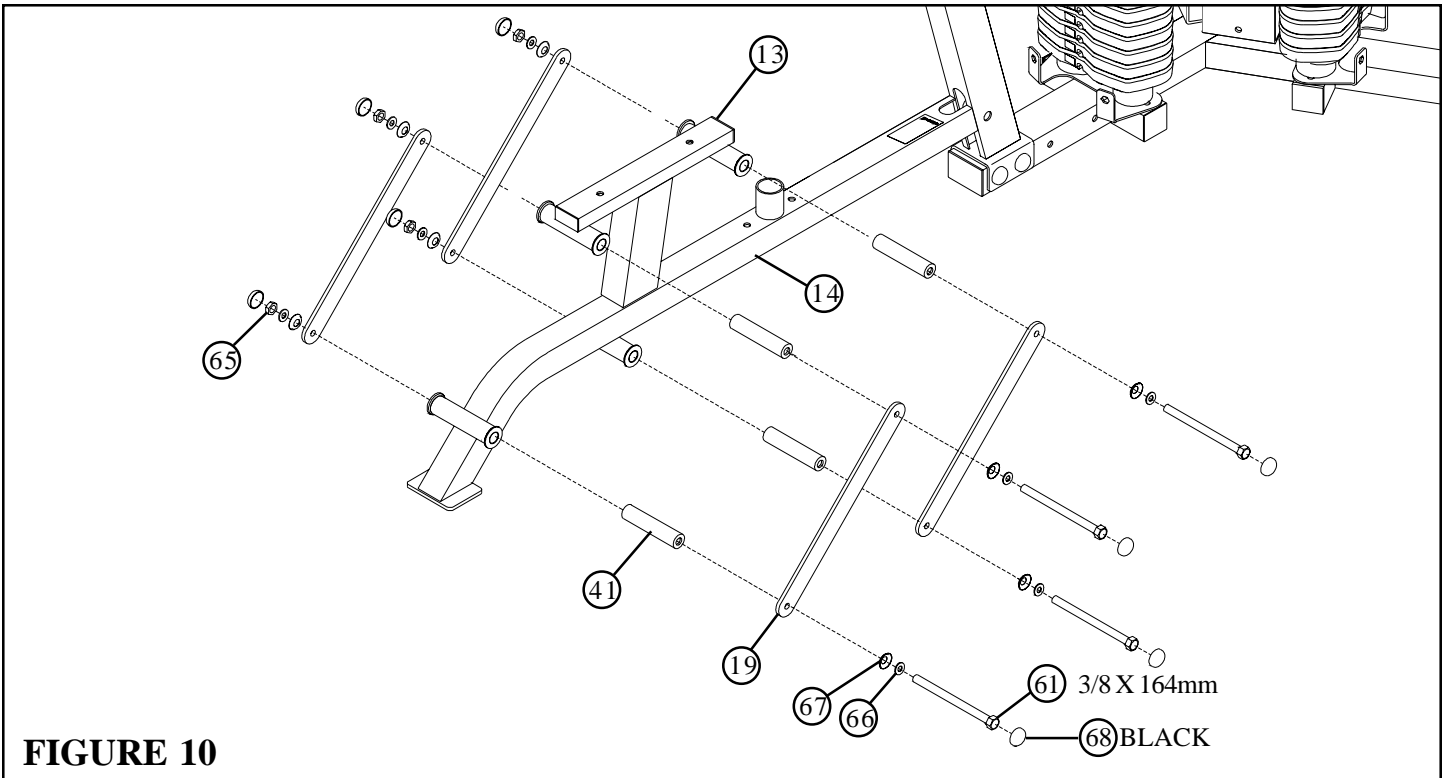

FIGURE 10
- Insert four 5-1/2" PIVOT SHAFTS (41) into the LAT/LOW FRAME (14) and the LAT/LOW SEAT (13) as shown in FIGURE 10.
- **SECURELY** assemble four LAT/LOW PLATES (19) to the LAT/LOW SEAT (13) and to the LAT/LOW FRAME (14) using eight BLACK RH CAPS (68), four 3/8 X 164mm BOLTS (61), eight 3/8 SAE WASHERS (66), eight 3/8 RH WASHERS (67) and four 3/8 LOW HEIGHT LOCK NUTS (65) as shown in FIGURE 10.